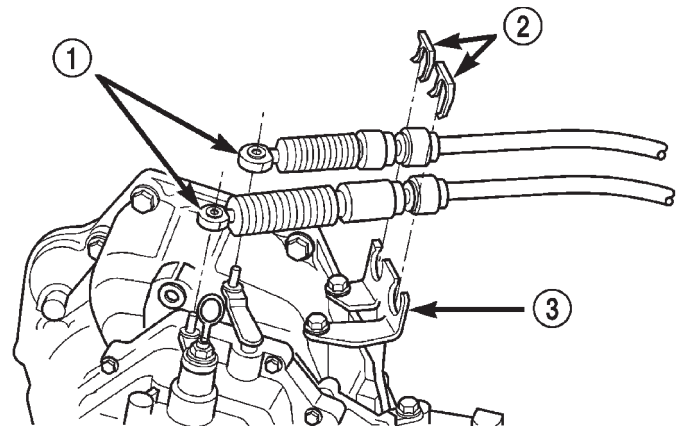

Fig. 12 Shift Cables at Transaxle
(9) Remove shift cable-to-bracket clips (Fig. 12).
(10) Disconnect shift selector and crossover cable from levers (Fig. 12). Remove cables and secure out of the way.
- (17) Connect shift crossover and selector cables to shift lever. Install cables to bracket and install retaining clips (Fig. 12).